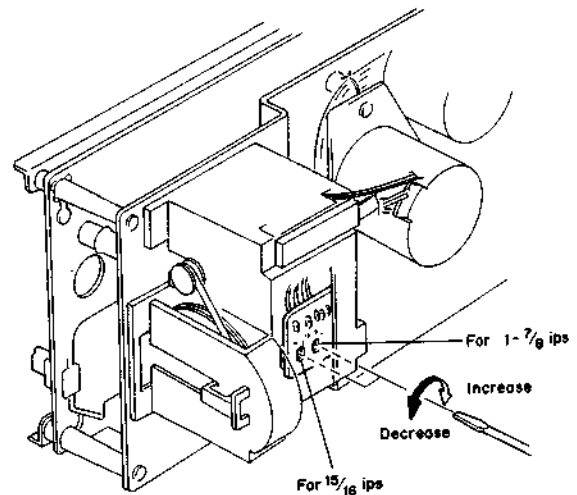

Fig. 4.3
(1) Standard Speed (1-7/8 ips)
- (d) Referring to Fig. 4.3, adjust the Tape Speed Adjustment Volume VR407 on the Speed Cal. P.C.B. to obtain 3,000 Hz on the Frequency Counter.
(2) Half-Speed (15/16 ips)
- (d) Referring to Fig. 4.3, adjust the Tape Speed Adjustment Volume VR408 on the Speed Cal. P.C.B. to obtain 3,000 Hz on the Frequency Counter.